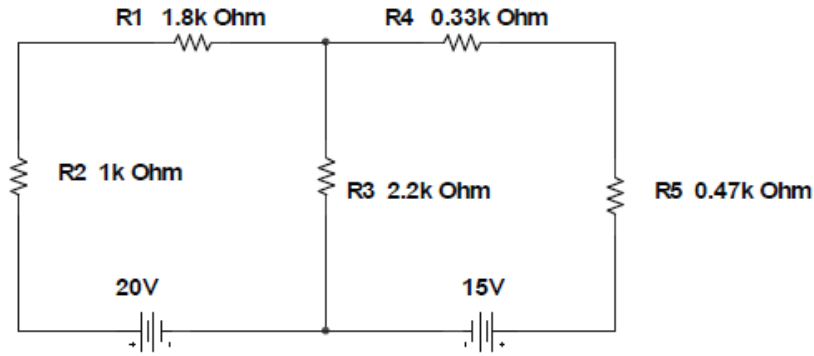

Figure 2
1. Connect the circuit as shown in Figure 2.
- Calculate using Kirchhoff's Maxwell's (mesh) current method the current in total network shown in Figure 2 (ignore this part).